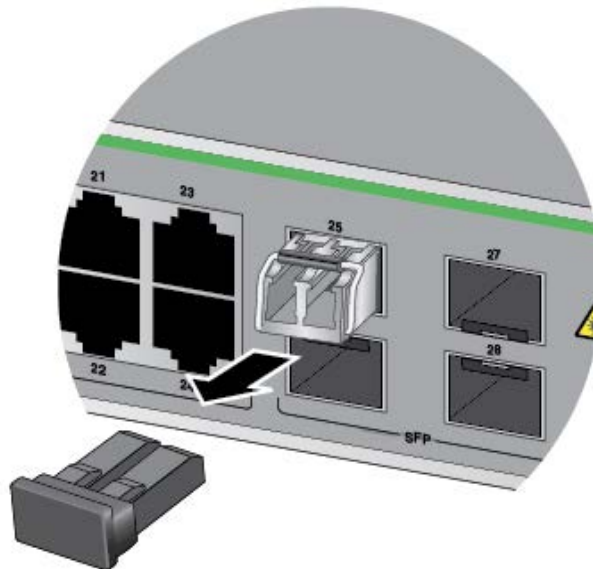

Figure 51. Removing the Dust Cover from an SFP Transceiver
4. Remove the dust cover from the transceiver, as shown in Figure 51.